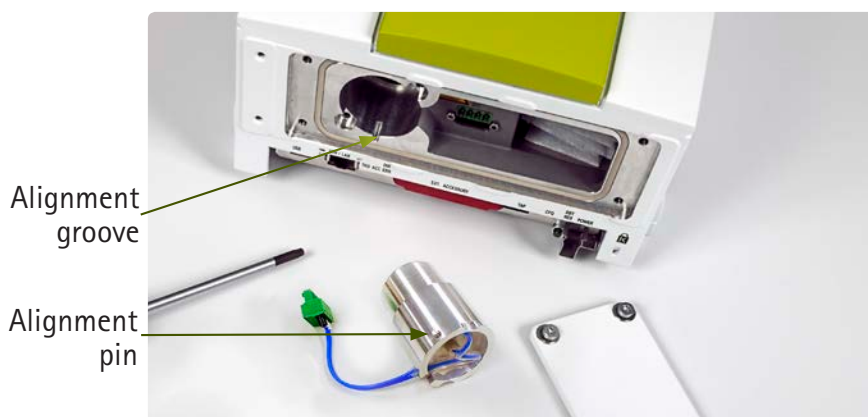

Figure 34. IR source removed from instrument
7. Insert the new IR source into the spectrometer housing. Make sure that the alignment pin fits into the alignment groove (Figure 34).